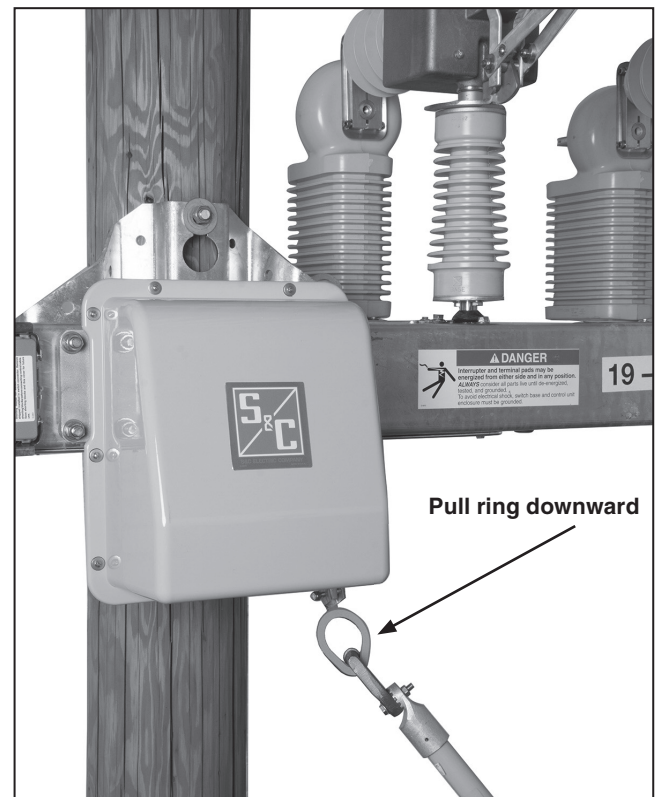

Figure 20. Manual operation with a hookstick.
STEP 26. Scada-Mate SD Switches are capable of manual interrupter operation. In the event of electrical power loss, a standard or extendible hookstick is used to open and close the interrupters. If the spring is fully discharged, pull on the operating mechanism pull-ring with the hookstick seven to nine times to effect a change of state. If the spring is partially charged, a single pull will change the interrupter position. See Figure 20.